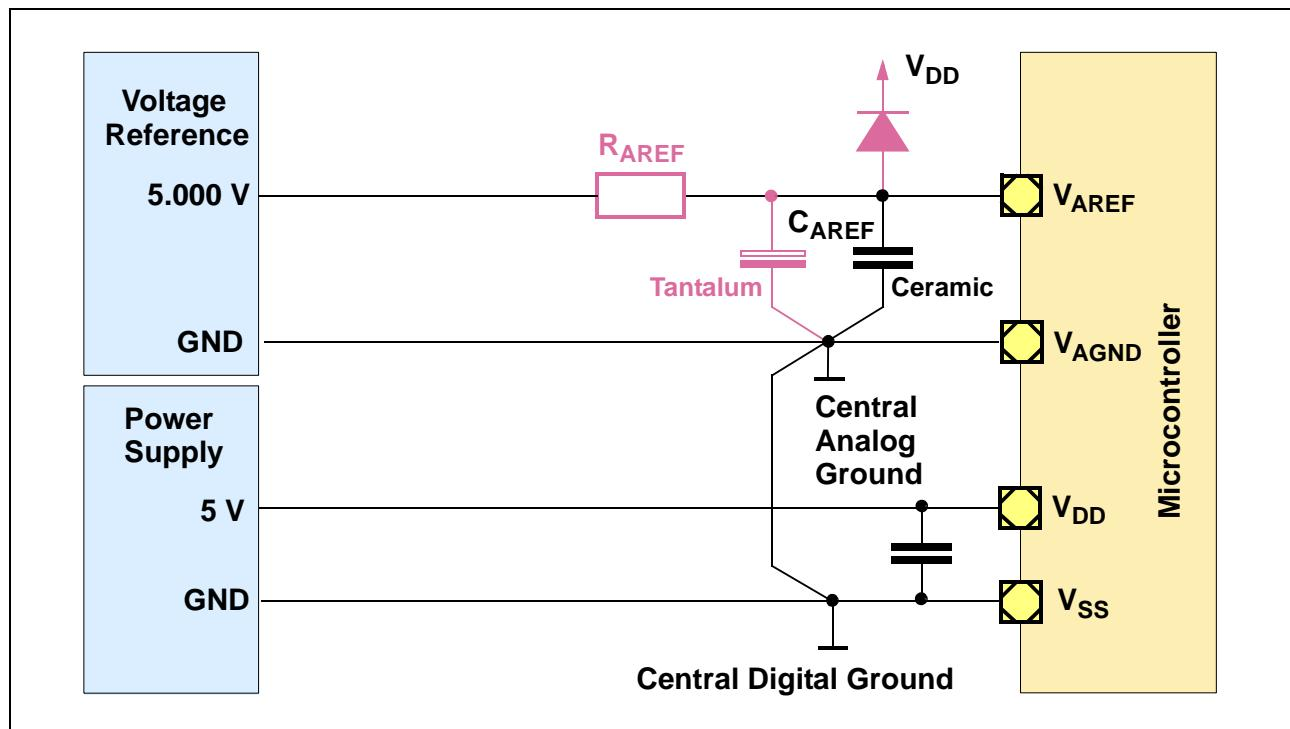

Figure 19 External Voltage Reference
*Note: In case of an overload condition, it is possible that  $R_{AREF}$  has to be increased, to limit the overload current to the specified values. If that value of  $R_{AREF}$  exceeds the demanded error of the system, an external diode between  $V_{AREF}$  and  $V_{DD}$  can reduce the overload current; See Figure 19.*